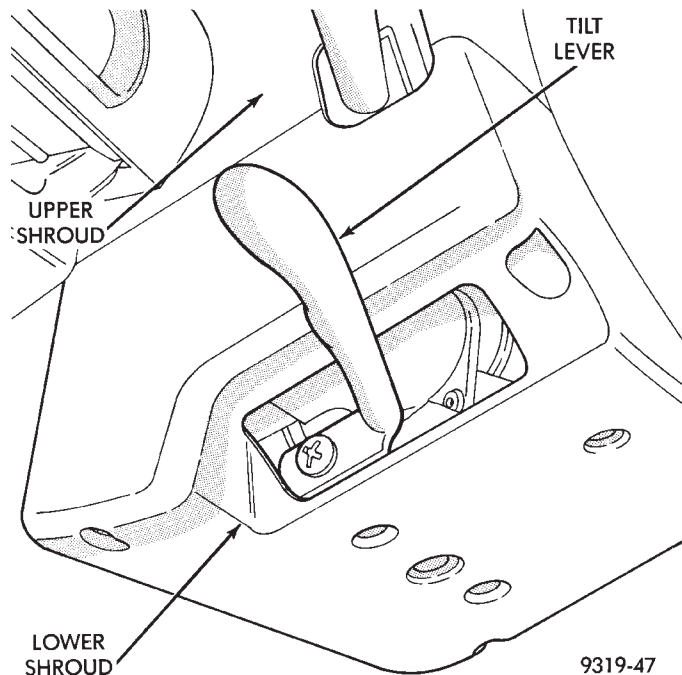

Fig. 9 Tilt Lever And Upper And Lower Shrouds
(15) Tilt steering column to the full down position. This will allow upper shroud to be removed easier avoiding damage to shroud. Then remove tilt lever and upper and lower steering column shrouds from steering column assembly (Fig. 9).
(16) If vehicle is equipped with a column shifter, shift cable is removed from steering column using following procedure. Install tilt lever back on steering column securely tightening attaching screw, then tilt steering column to the up position. Then pry shift cable off shifter pin on shifter mechanism. Remove shift cable retaining clip at shift cable support bracket, being careful not to bend cable bracket.
(11) Install the upper and lower steering column assembly shrouds (Fig. 9) on the steering column. Install and securely tighten the 6 screws attaching the shrouds to the steering column. Install the tilt lever (Fig. 9) on steering column and install and securely tighten tilt lever attaching screw. Do not cross thread lever attaching screw.